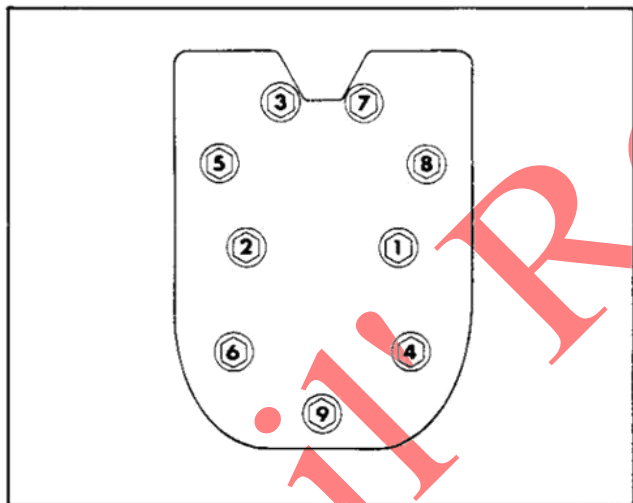

Figure 11-35. Cylinder Head Fastener Torque Sequence.
1. Install gaskets, cylinder heads, plain washers, and hex cap screws (lubricate threads with oil). Torque hex cap screws in the sequence shown in Figure 11-35 to **15/20 ft. lb.**